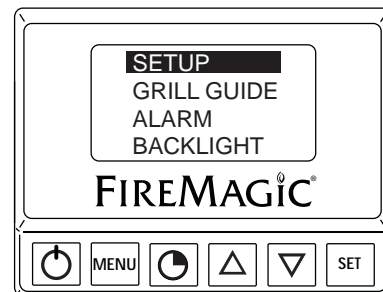

Fig. 24-4 Menu screen
**Press the power button to turn the thermometer ON.** The default screen will be displayed. Press the **MENU** button to display its screen. Press the up/down arrow to scroll through the options (see Fig. 24-4).